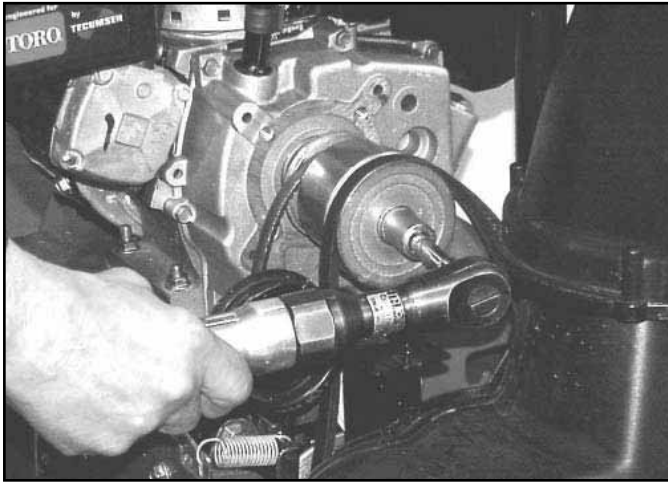

Fig 079
7. Remove the crankshaft pulley capscrew (Fig. 079), the front section of the pulley and the belt.